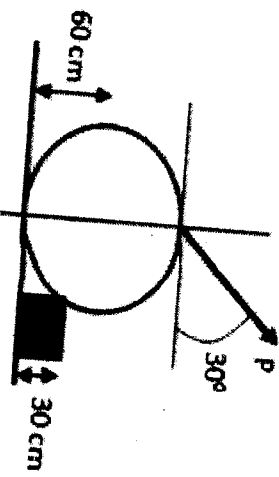

Figure 1
- 2. Find out magnitude of force P required to start the roller over the step as shown in figure 1. (5X10=50)